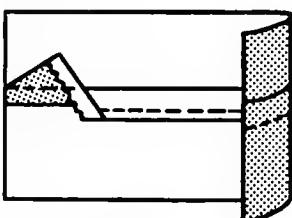

Fig. 97. A flat-fell seam.
4. Turn under the upper seam allowance. Keep a uniform distance from the seamline. Baste, press, and stitch down flat to the garment along the folded edge. Press (Fig. 97).